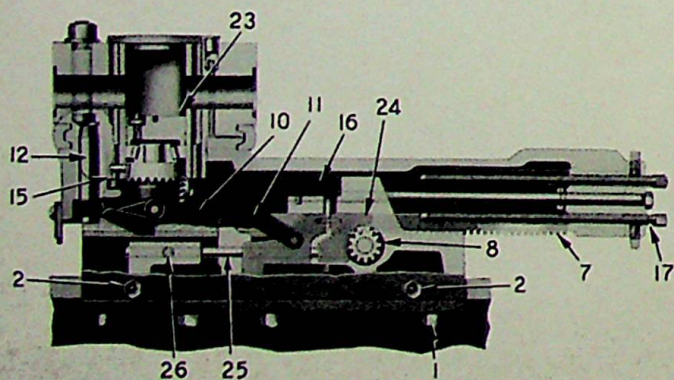
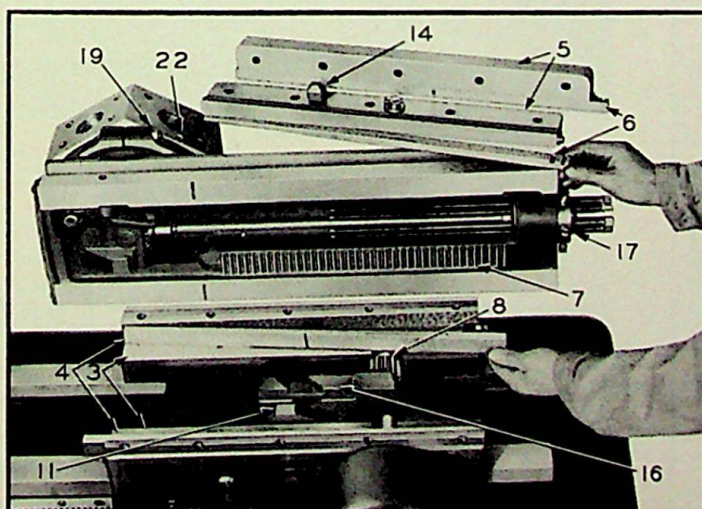
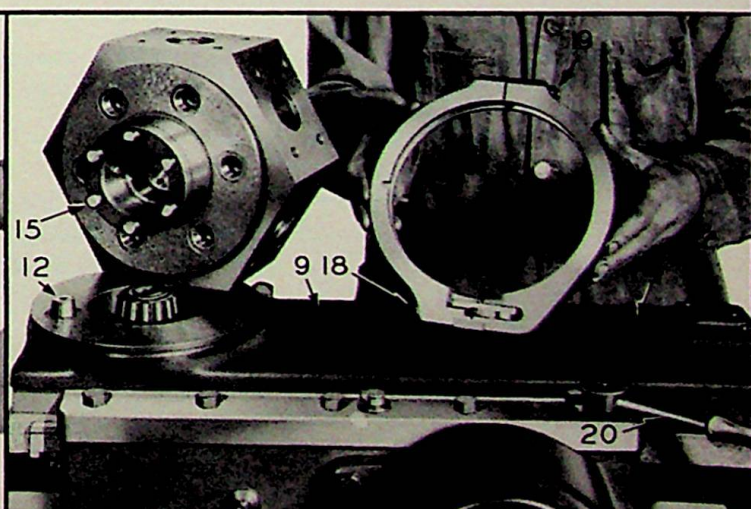

FIG. 37 Phantom View of Turret Slide and Saddle
FIG. 38 Bottom of Turret Slide
FIG. 39 Turret Seat and Circumference Binder Ring
The Saddle is clamped to the bed with four bolts on each side (1), Fig. 37. It is aligned against the side of the bed by two shoes backed up by set screws and lock nuts (2). These shoes should be adjusted to a sliding fit and locked. Then they require practically no further attention, as the saddle is moved along the bed only when setting up the machine for a new job. However, when these screws are not properly adjusted the turret saddle is not parallel with the bed, causing inaccuracy in the work.
Hardened and ground steel wear-strips on which the slide rides (3), Fig. 38, are anchored in the saddle. These are replaceable and can be supplied thicker than standard for repair purposes.
Side alignment is obtained through two taper gibs (4), Fig. 38. Care should be used and both sides moved the same amount, to keep the turret in alignment with spindle. In case of doubt, an alignment check should be made. (See chapter on alignment).
The top caps (5), Fig. 38, are provided with taper gibs (6) for adjusting vertical play.
The Turret Slide is operated through rack (7), and pinion (8) Fig. 37 and Fig. 38, on the turnstile shaft.
The rack screws (9), Fig. 39, should at all times be kept well tightened. Two dowel pins take the feeding thrust load, relieving the screws of all side strain.
1. Beginning with the slide in its forward position, moving it to the rear causes lock bolt lever (10), Fig. 37, to strike the rising angle of tumbler (11). This action lowers the lock bolt (12) and frees the turret.
3. As the turret slide moves farther to the rear, one of the six index pins (15), Fig. 37 and Fig. 39, contacts with pawl (16), Figs. 37 and 38, holding the pin against further movement and thus causing the turret to rotate one-sixth turn.
4. In the meantime the rear end of lock bolt lever (10), Fig. 37, has reached the rear corner of tumbler (11), causing the lock bolt lever to snap the lock bolt into the lock bolt bushing in the hexagon turret.
5. During this turret rotation the stop roll unit (17), Fig. 37, has also been rotated one-sixth of a
6. As the turret slide travels forward again, the binder ring is clamped and the tumbler (11), Fig. 37, rises, allowing the lock bolt lever to pass, then drops back to its seat, completing the cycle.
Move the turret slide to its rearmost position to free the binder ring. Then unscrew the two nuts and the front screw that holds the two halves of the binder ring together (18) and (19), Fig. 39. The ring can then be taken off and the turret lifted off its seat.
2. See that the slot between the two ring halves at the front is $\frac{1}{8}$ inch wide. Lock the front screw with its lock nut (19), Fig. 38. This screw should not be disturbed thereafter.
6. In this position, clamp turret slide in its saddle with clamp handle (20), Fig. 39.
2. Loosen set screw (22), Fig. 38, which locks the bearing adjusting plug (23), Fig. 37.
6. Bring bearing adjusting plug (23), Fig. 37, down forcefully to a solid and firm seat.